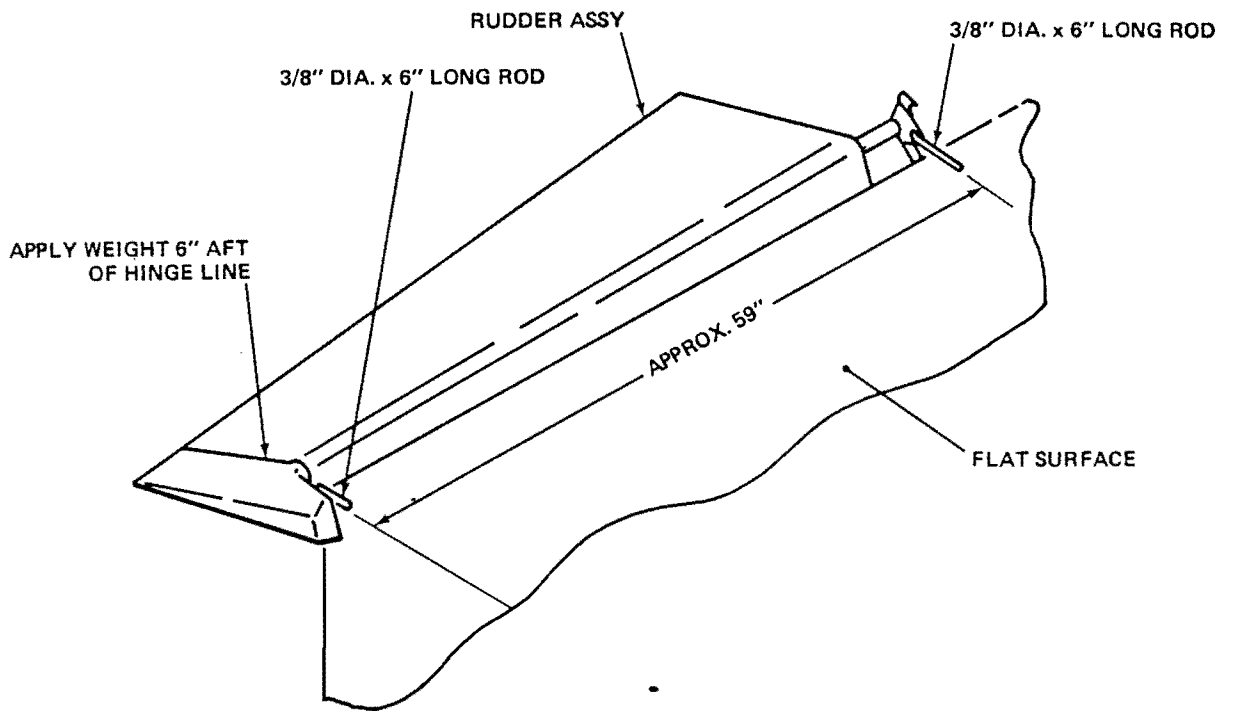

Figure 3.
15. Check balance of rudder assembly as follows (refer to Figure 3):